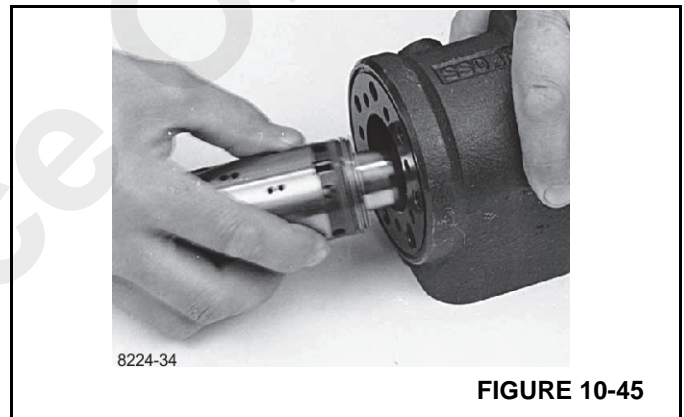

FIGURE 10-45
- 14. With a light turning movement, guide the spool and sleeve into the bore. Fit the spool assembly holding the cross pin horizontal (Figure 10-45).